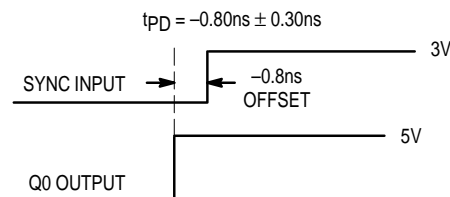

Figure 2. Depiction of the Fixed SYNC to Q0 Offset (tPD) Which Is Present When a 1M $\Omega$  Resistor Is Tied to VCC or Ground
- A 1M $\Omega$  resistor tied to either Analog VCC or Analog GND, as shown in Figure 2, is required to ensure no jitter is present on the MC88916 outputs. This technique causes a phase offset between the SYNC input and the Q0 output, measured at the pins. The tPD spec describes how this offset varies with process, temperature, and voltage. The specs were arrived at by measuring the phase relationship for the 14 lots described in note 1 while the part was in phase-locked operation. The actual measurements were made with a 10MHz SYNC input (1.0ns edge rate from 0.8V to 2.0V). The phase measurements were made at 1.5V. See Figure 2 for a graphical description.